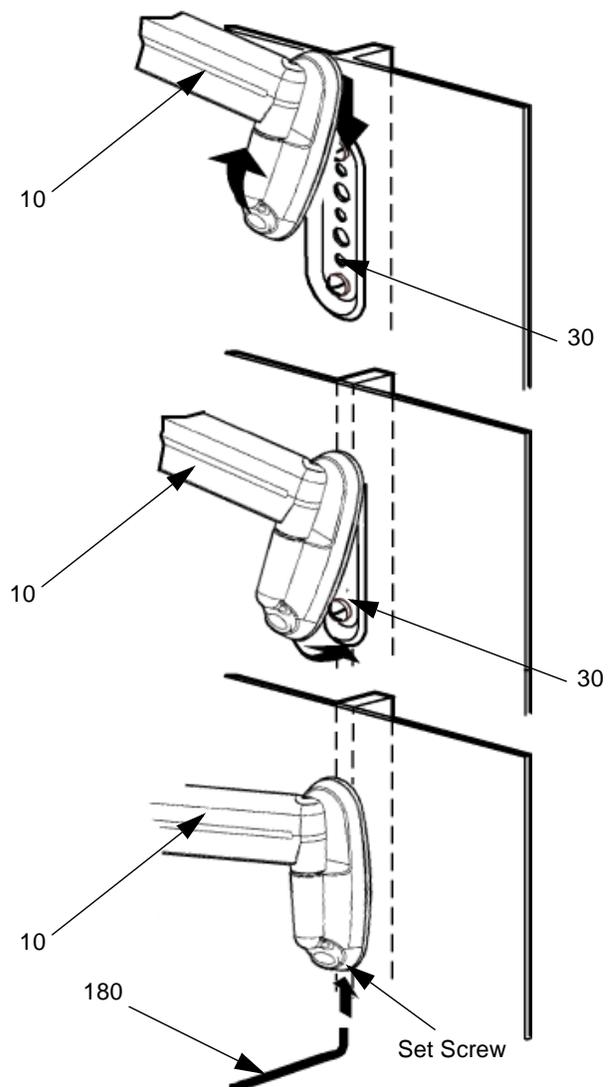

Figure 3: Attach Mount to Wall Bracket
1. Align the top of the mount (10) with the top of the wall bracket (30). Push the bottom of the mount against the bottom of the wall bracket until the mount fits snugly in place. See Figure 3.
2. Using the 5/32" hex wrench (100), secure the mount to the wall bracket by tightening the set screw (110) (see Figure 3). Ensure set screw engages *back* side of bracket to properly secure mount.